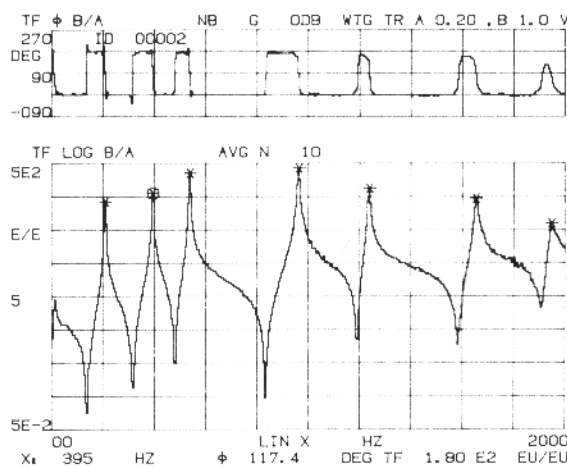
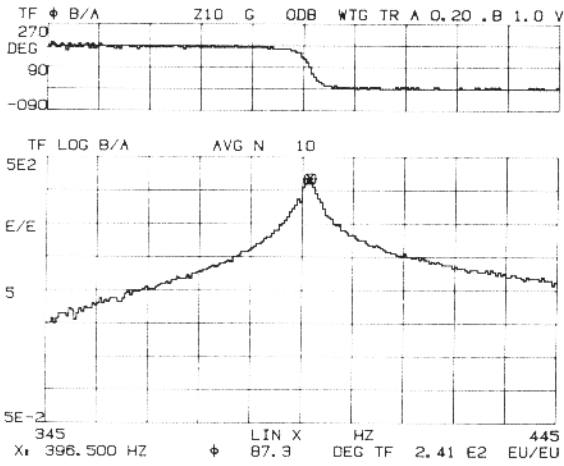

Figure 14. Transfer Function with Magnitude and Phase Listings for each Mode of Vibration
Figure 15. Zoom Data from Figure 14 Centered at 396.5 Hz
- a. The phase angle between input force and output acceleration will be  $90^\circ$  at resonance. Looking at Figure 14, we see modes of vibration with a listing of frequency, phase angle, and amplitude. All the measured phase angles should approach  $90^\circ$  but, because of the lack of frequency resolution, they do not. The mode at 395 Hz shows a phase angle of  $117.4^\circ$ . This is a  $27.4^\circ$  error. By increasing the resolution with a zoom factor of 10, the measured phase angle changes to  $87.3^\circ$  and displays a more accurate frequency of 396.5 Hz, as shown in Figure 15.